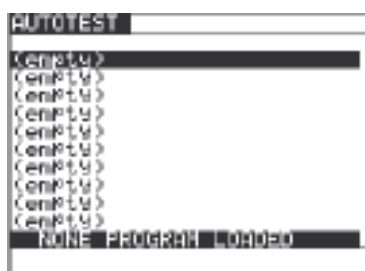

Fig. 45. Main menu in Autotest function (initially no program loaded)
STEP 3. Set rotary switch on the instrument to **AUTOTEST** position, the heading in fig.45 is displayed.